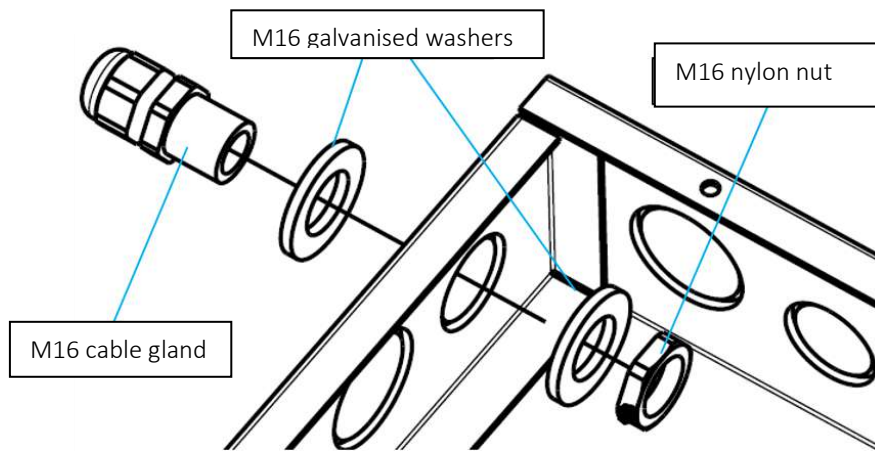

Fig. 37 Cable gland installation diagram
- F. Take out the screw terminals from the terminal board and connect the power supply cables (of the projector and the external cables) as shown in Figure 37: earth cable (green) to the top terminal, phase L cable (black) to the central terminal and the neutral N cable (white) to the bottom terminal.